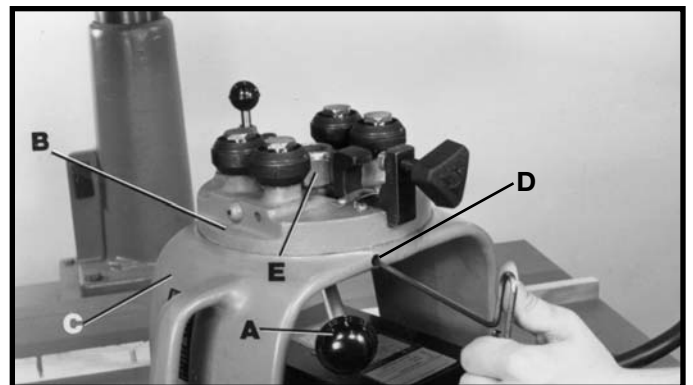

Fig. 32
After extended use "play" may develop between yoke (C) Fig. 32, and bearing carriage (B). To reduce "play" proceed as follows:
4. Remove yoke assembly from track-arm and place yoke assembly (C) Fig. 32, on saw table.
5. Pull yoke clamp handle (A) to the position shown in Fig. 32, to loosen, and loosen set screw (D) one turn only.
6. Turn nut (E) Fig. 32, clockwise until "play" between the yoke (C) and bearing carriage (B) is removed. Then tighten set screw (D), Fig. 32.
7. Tighten yoke clamp handle (A) Fig. 32, by moving it forward, and reassemble yoke (C) assembly to track-arm.